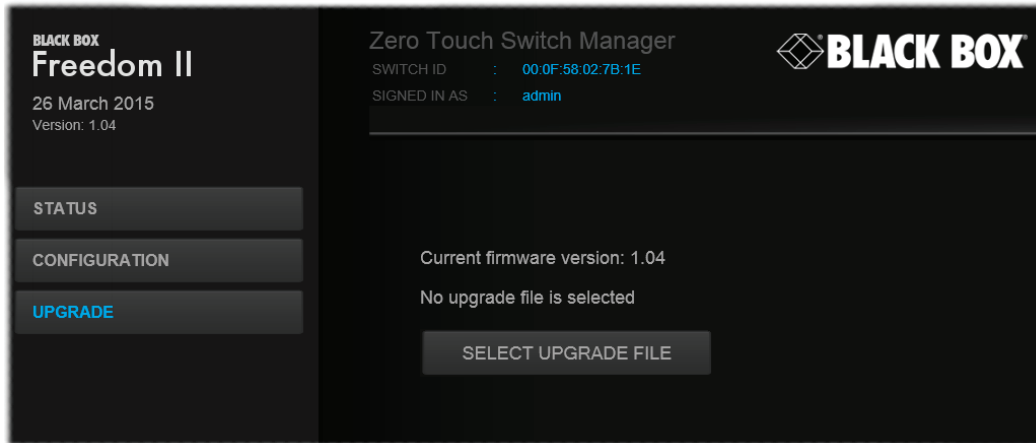

Figure 4-7. The Upgrade page
2. On the left side, click the Upgrade button. See Figure 4-7.